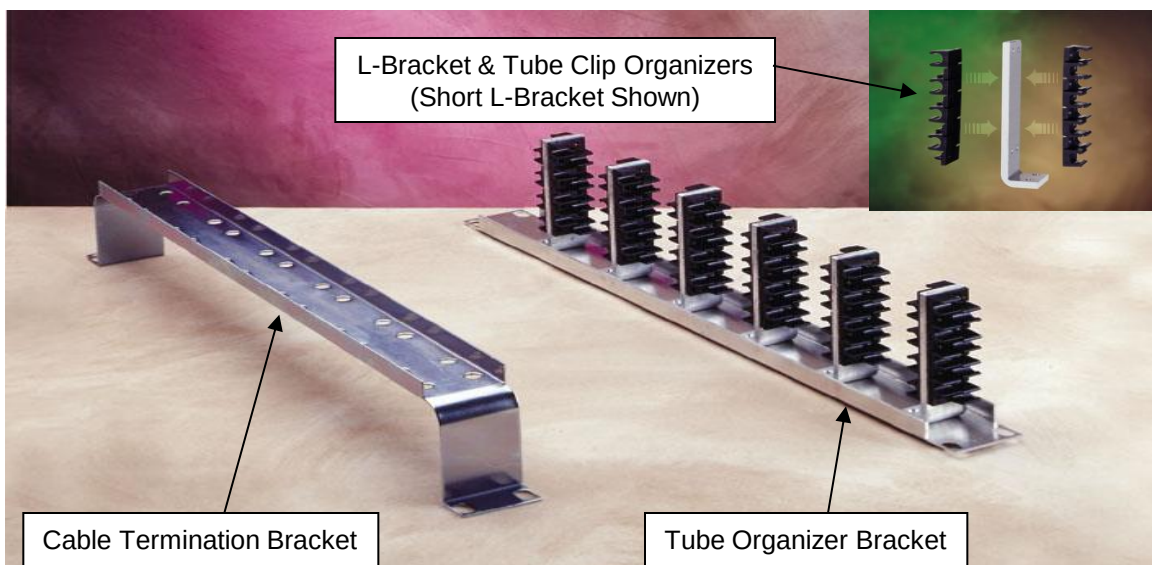

Figure 1
5.1 See **Fig. 1** for Rack-Mount Tube Cable Termination Panel layout.